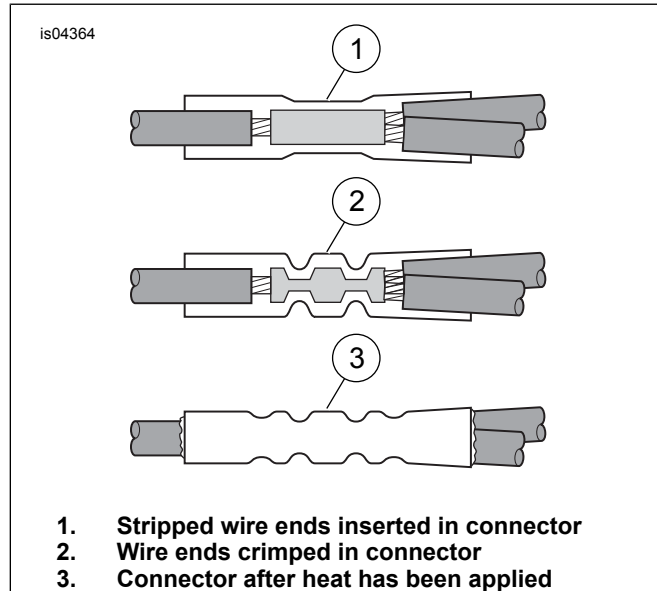

Figure 4. Install Butt Splice Connectors
- See Figure 4. Insert wires into ends of butt splice connector.